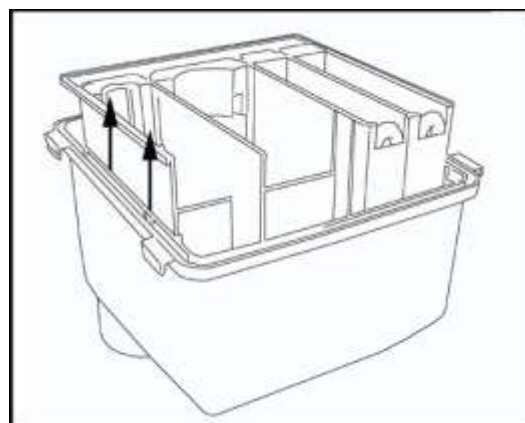

Fig.14.2
- To clean the lower basin, remove the leak seal and separate the two dispenser bodies by separating the side lips (Fig. 14.2).